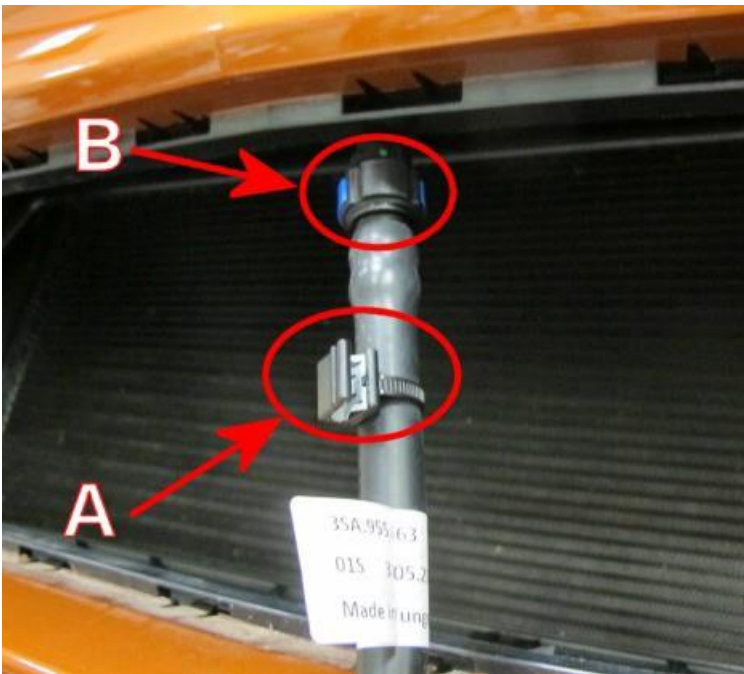

Figure 4
3) Referring to Figure 4
- Disconnect the hose from all applicable clipping points see example at (A)
- Disconnect the hose at (B)